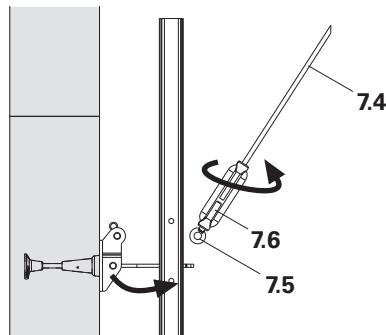

Fig. B1.38
5. Turn Turnbuckle CB Ø 25-M20L/DW 15 (7.6) on the tie rod (7.4). (Fig. B1.38)